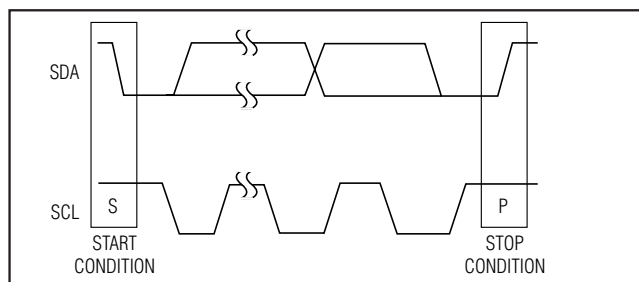
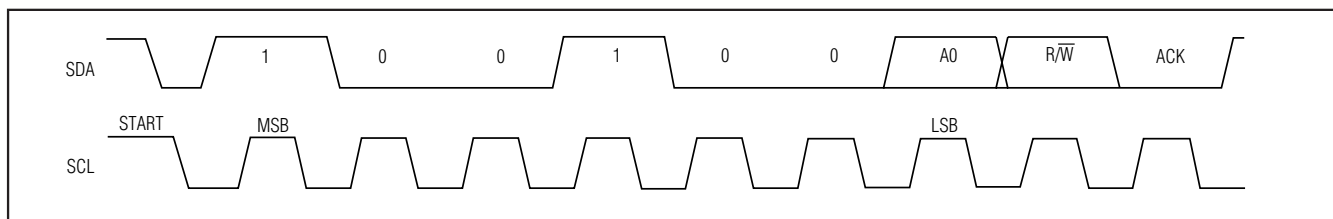

Figure 14. Start and Stop Conditions
Figure 15. Slave Address
Each transmission consists of a start condition (see Figure 14) sent by a master device, the MAX3301E/MAX3302E 7-bit slave address (determined by the state of ADD), plus an R/W bit (see Figure 15), a register address byte, one or more data bytes, and a stop condition (see Figure 14).
Both SCL and SDA assert high when the interface is not busy. A master device signals the beginning of a transmission with a start (S) condition by transitioning SDA from high to low while SCL is high. The master issues a stop (P) condition by transitioning SDA from low to high while SCL is high. The bus is then free for another transmission (see Figure 14).
A bus master initiates communication with a slave device by issuing a START condition followed by the 7-bit slave address (see Figure 15). When idle, the MAX3301E/MAX3302E wait for a START condition followed by its slave address. The LSB of the address word is the read/write (R/W) bit. R/W indicates whether the master is writing to or reading from the MAX3301E/MAX3302E ( $R/\bar{W} = 0$  selects the write condition,  $R/\bar{W} = 1$  selects the read condition). After receiving the proper address, the MAX3301E/MAX3302E issue an ACK.